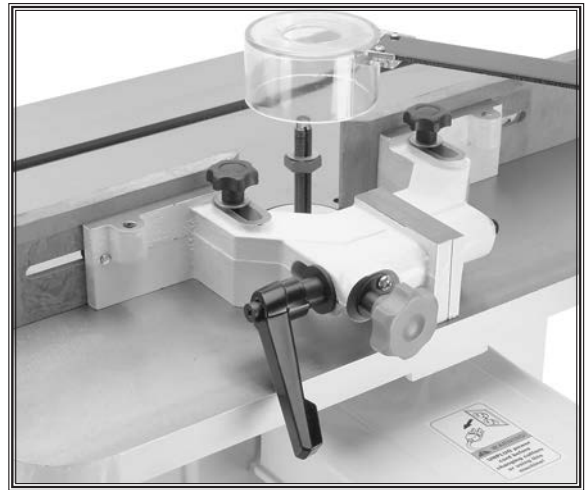

Figure 20. Fence mount lock handle and adjustment knob.
1. Loosen the fence mount lock handle shown in **Figure 20**.
2. Adjust the position of the fence by turning the adjustment knob shown in **Figure 20**.